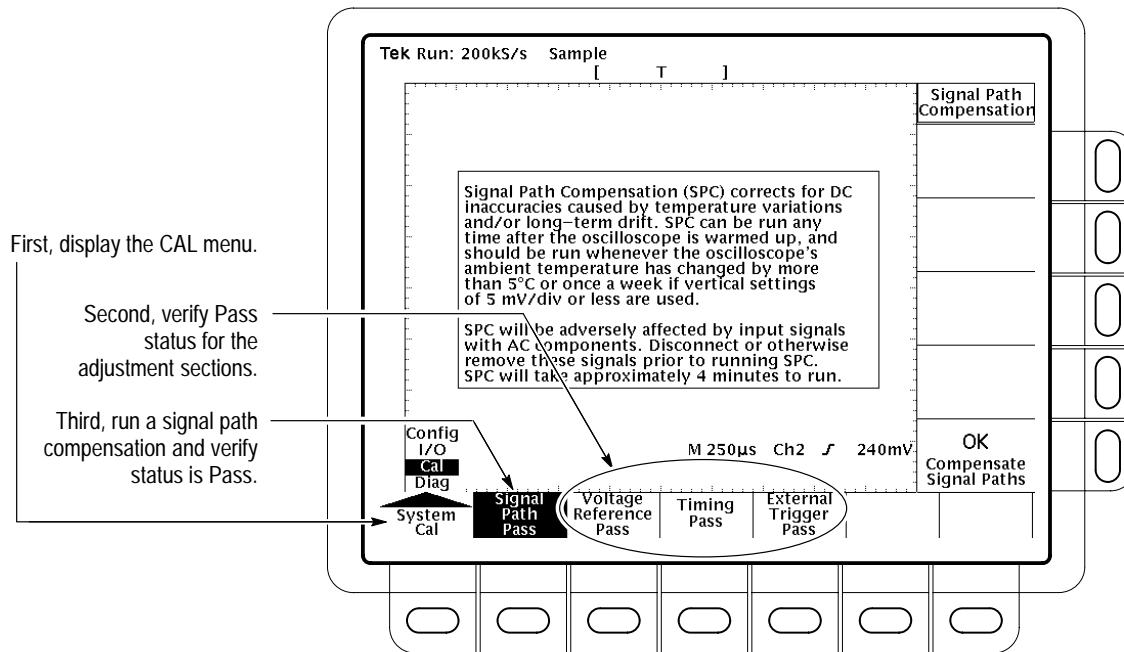

Figure 1-3: Verifying adjustments and signal path compensation
9. Check that the word Pass appears under Signal Path in the main menu. (See Figure 1-3.) If Pass does not appear, the oscilloscope has failed the performance verification; return it to Tektronix for servicing.